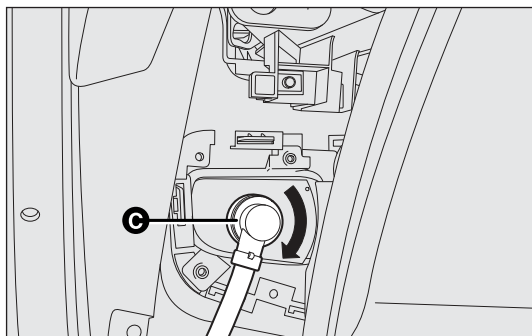

fig. 170
- ☐ remove the bulb holder cover C-fig. 170 by turning it anti-clockwise;
- ☐ refit the bulb holder cover C-fig. 170 by turning it clockwise and locking it properly;